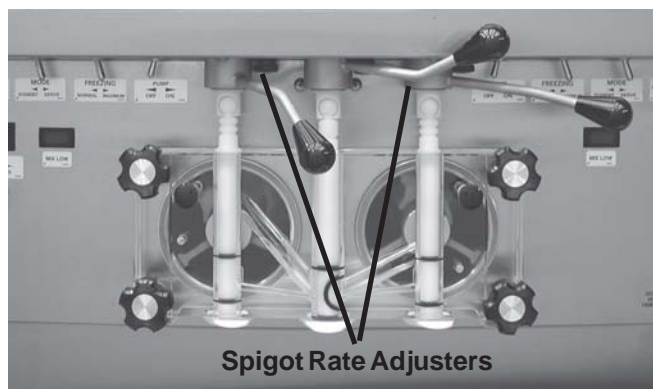

Figure 22. Dispensing Product
- G. The refrigeration is automatically actuated when the spigot is opened. For normal dispensing, open the spigot no more than 90°. (This is when the handle knob is pointed directly away from the front door.). This position provides excellent control over the product and aids in making desired shaped portions. Spigot Rate Adjusters are located under the Header Panel, to the immediate right of each Spigot Handle. Turning the Spigot Rate Adjuster clockwise will increase the dispense rate. (see Figure 22)